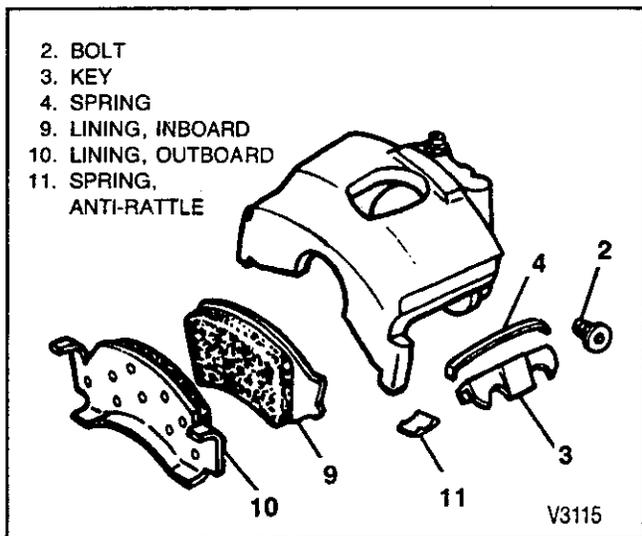

Figure 4—Replacing the Disc Brake Pads
**Remove or Disconnect (Figures 4 and 7)**
2. Inboard lining (9).
3. Anti-rattle spring (11).
4. Outboard lining (10).
**Install or Connect (Figure 4)**
1. Inboard lining (9) and anti-rattle spring (11).
2. Outboard lining (10).